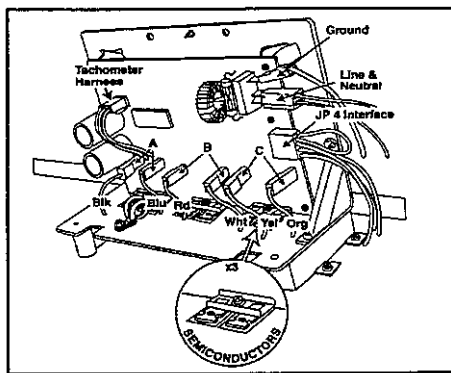

Figure 2-6
Refer to section titled Motor Control for board identification of A, B and C terminal/harness identification (*Figure 2-6*). Also, see the wiring schematic for harness identification.
1. Disconnect power to the machine & connect a power test cord to the Line & Neutral terminals of the Motor Control board. *(Figure 2-6).*
- A. Check the 10 amp fuse located on the control board, either visually or with an ohm meter. If bad, replace motor control/wire harness assembly completely *(Figure 2-6).*
- B. If the fuse is functioning, check the six semiconductors on the heat sink visually for any damage. If damaged, replace motor control/wire harness assembly complete and check motor windings for damage *(See DRIVE MOTOR)*. Replace motor if necessary *(Figure 2-6).*
To gain access to the Motor Control Board terminals: *(Figure 2-6)*
6. Connect the power test cord to the Ground wire, Line 1 and Neutral wires. (Leave the JP4 connector off the board.) *(Figure 2-6)*
2. **Disconnect power to the machine** & connect a power test cord to the Line & Neutral terminals of the Motor Control board (*Figure 2-6*).